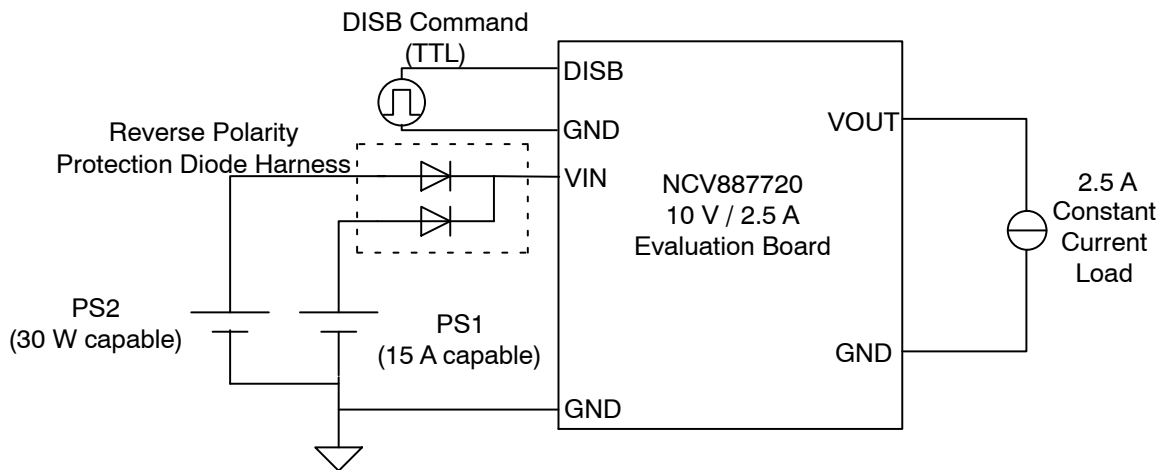

Figure 2. Evaluation Board Connections
The evaluation board is rated to operate under full load for input voltage as low as 3.75 V at the input terminal under full power (less if output current is reduced). Start-Stop applications use reverse battery protection diodes in front of the boost converter (Figure 2), so the input source can operate down to 3.75 V plus a diode drop (i.e. ~4.25 V).
1. Connect both DC1 and DC2 input power supplies as illustrated in Figure 2. Adjust DC2 so that PCB VIN = 3.75 V for a 2.5 A load.